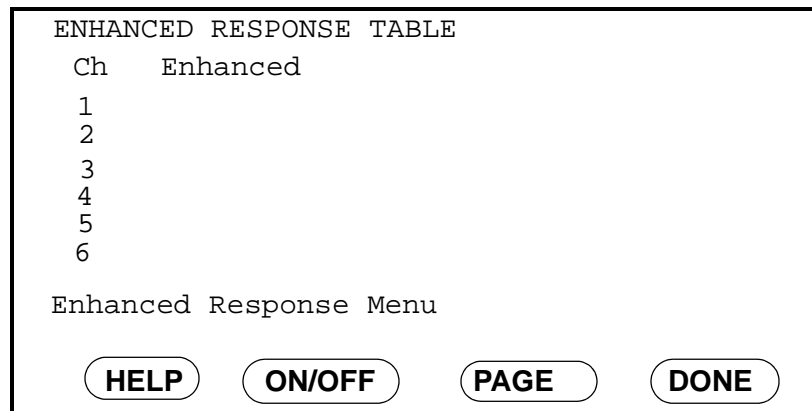

Figure 37: Enhanced Response Menu
3. If necessary, press the PAGE menu key until the Enhanced Response Menu appears (see Figure 37 on page 68).